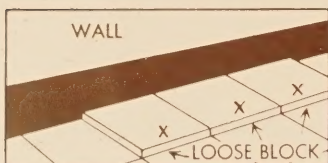

FIG. 5
If the above test shows that Line A and Wall B form a right angle, blocks may be laid flush along this wall in alignment with Line A without extra effort. However, if the area proves to be out of square, it is NOT necessary to "square the room" by establishing a second working line along Wall B. Just remember, when laying blocks, to place Block No. 1 (see Fig. 5) in perfect alignment with Line A and to keep the joints of all blocks in line with those of neighboring blocks. (For further details, see "Laying the Blocks") Do not cover Working Line A.
Step 1: As in Fig. 5, place loose blocks over the last row of installed blocks, making certain that the tongues and grooves of these loose blocks will interlock on the side marked "X" with those various blocks that they are resting upon.